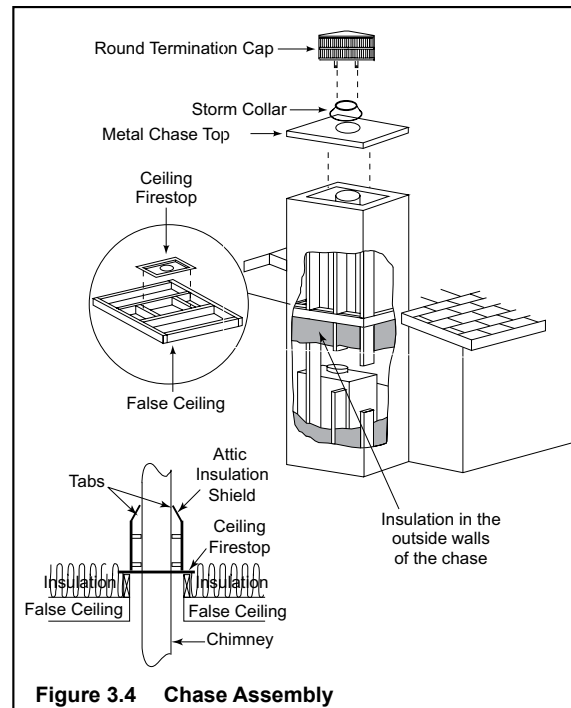

Figure 3.4 Chase Assembly
Walls, ceiling, base plate and cantilever floor at the first level of the chase should be insulated (see Figure 3.4.) Vapor and air infiltration barriers should be installed in the chase as per regional codes for the rest of the home. Additionally, Hearth & Home Technologies recommends that the inside surfaces be drywalled and taped (or the use of an equivalent method) for maximum air tightness.
- In cold climates, the walls of the chase should be insulated to the level of the false ceiling as shown in Figure 3.4. This will help reduce heat loss from the home around the fireplace.